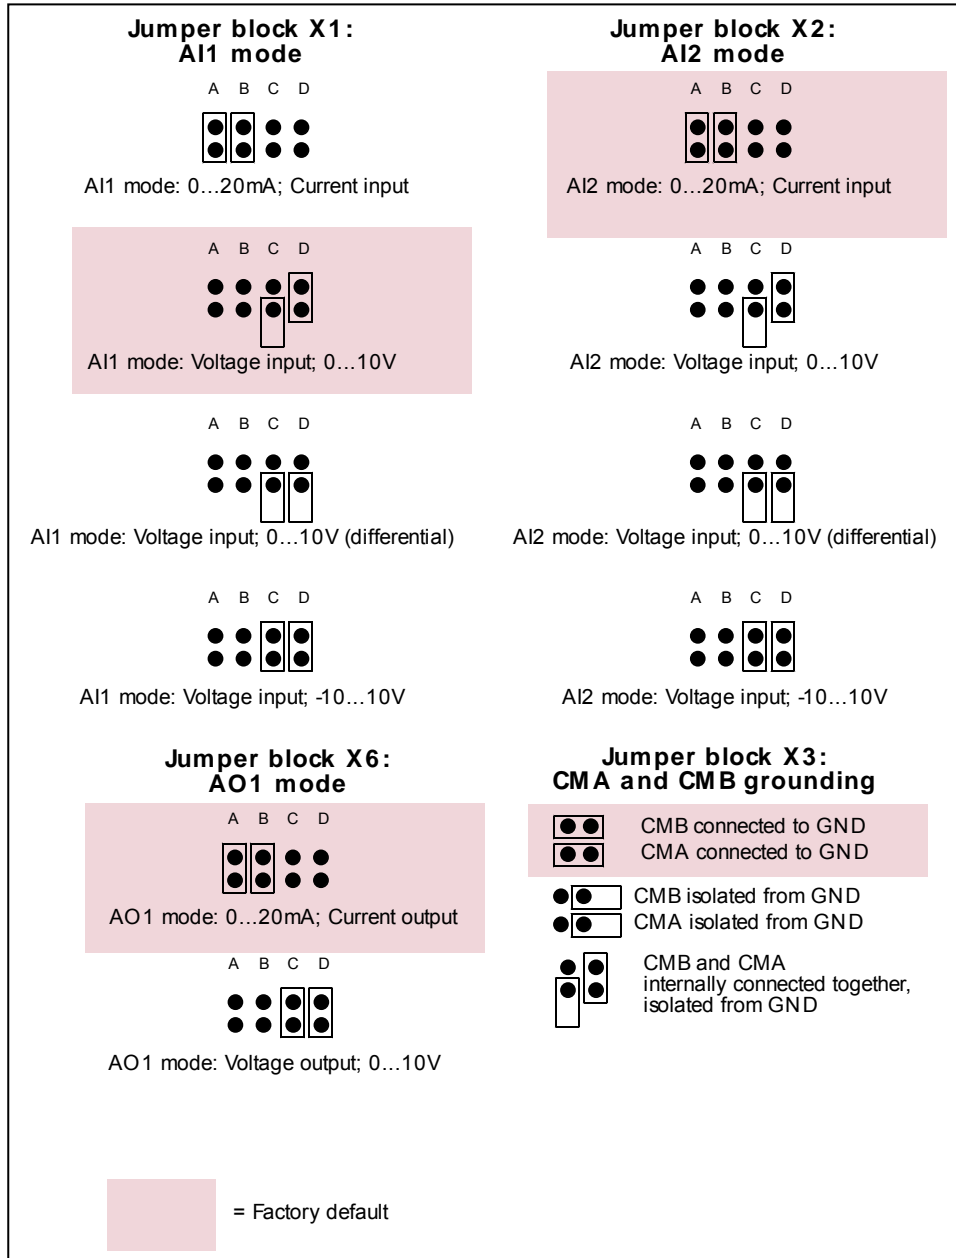

Figure 3-2. Jumper block selection on OPT-A1
- Jumpers:* 4; X1, X2, X3 and X6 (See Figure 3-2.)